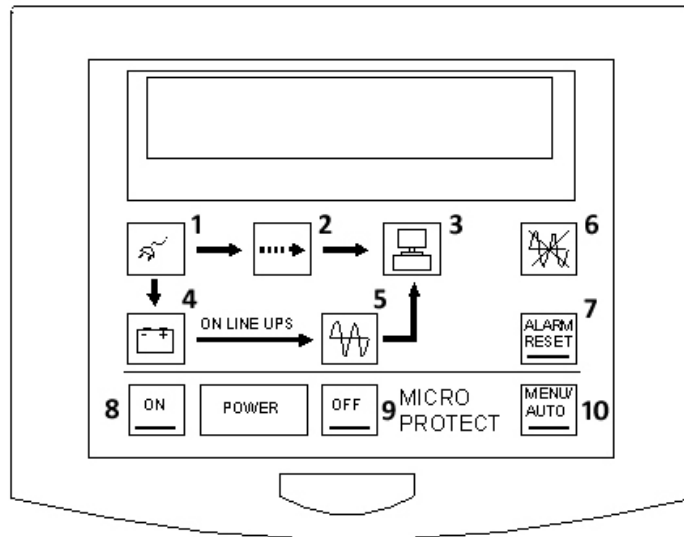

Figure 5 : Front Panel
3. Then press 「 8. On 」 button (see Figure 5) to turn on the UPS.
4. If the UPS is fault, 「 6. Fault 」 indicator (see Figure 5) will light and alarm continuously. Please immediately contact the dealer from whom you purchased the UPS.
5. If the UPS is normal, then press 「 9. Off 」 button (see Figure 5) to turn OFF the UPS.